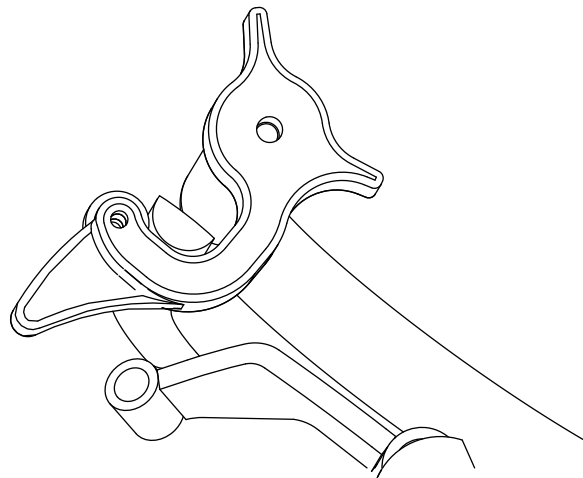

Figure 22
1. With rear of machine still on jack stands and engine running at full throttle, disengage the park brake and move the speed control lever to the midway position. Move the respective drive lever upward until it reaches the neutral position and engage neutral lock latches (Figure 22). If the tire rotates in either direction, the length of the drive lever link will need to be adjusted.